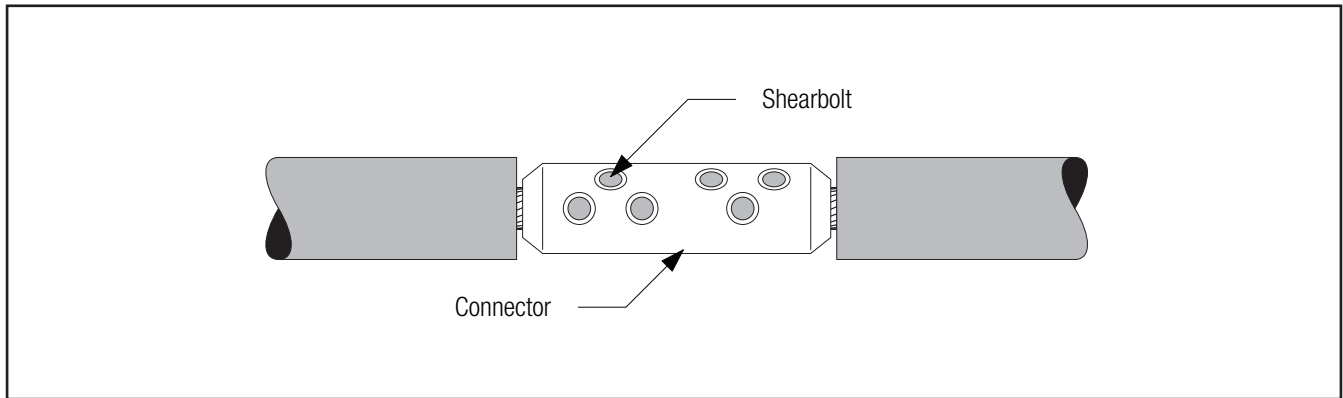

Figure 8
- 3.2 Install 3M Shearbolt Connector QCI 1/0-350 according to the instructions included with the connector (Figure 8).